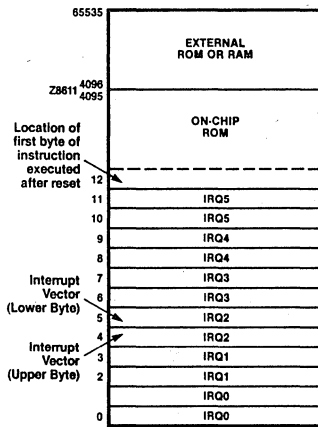

Figure 4. Program Memory Map
**Program Memory.** The 16-bit program counter addresses 64K bytes of program memory space. Program memory can be located in two areas: one internal and the other external (Figure 4). The first 4096 (Z8611) bytes consist of on-chip mask-programmed ROM. At addresses 4096 (Z8611) and greater, the Z8 executes external program memory fetches.